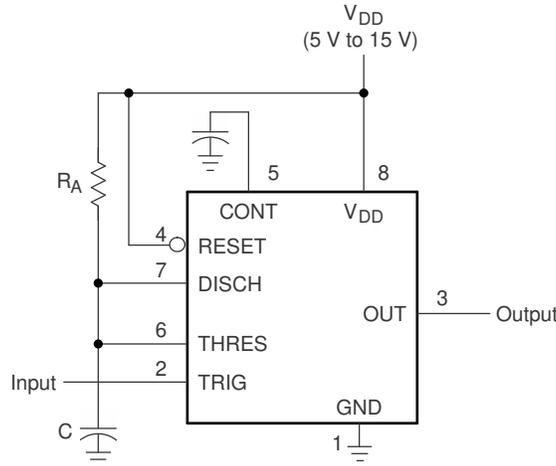
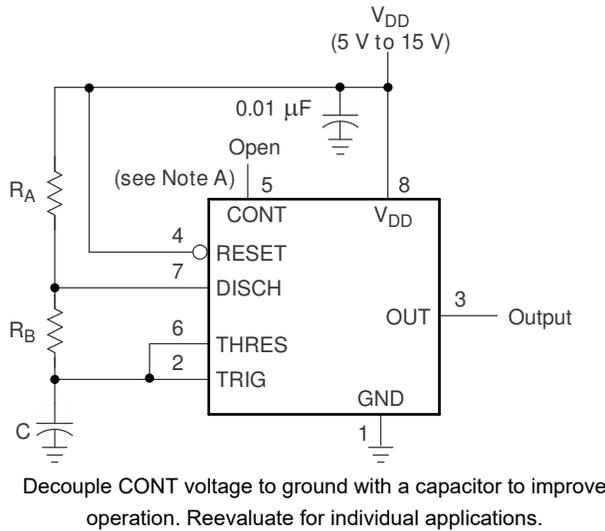
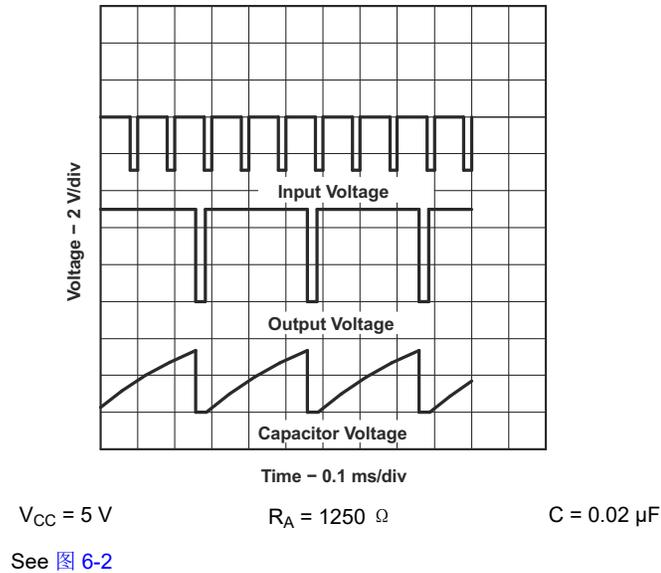

图 6-2. Circuit for Monostable Operation
图 6-5. Circuit for Astable Operation
图 6-9. Divide-by-Three Circuit Waveforms
(1)  $R_A$ ,  $R_B$ , and  $C_T$  are as defined in 图 6-5.
For monostable operation, 图 6-2 shows how any of these timers can be connected. If the output is low, application of a negative-going pulse to the trigger (TRIG) sets the internal latch; the output goes high, and discharge pin (DISCH) becomes open drain. Capacitor C then is charged through  $R_A$  until the voltage across the capacitor reaches the threshold voltage of the threshold (THRES) input. If TRIG has returned to a high level, the output of the threshold comparator resets the internal latch, the output goes low, the discharge pin goes low, which quickly discharges capacitor C.
As shown in 图 6-5, adding a second resistor,  $R_B$ , to the circuit of 图 6-2 and connecting the trigger input to the threshold input causes the timer to self-trigger and run as a multivibrator. The capacitor  $C$  charges through  $R_A$  and  $R_B$  and then discharges through  $R_B$  only. Therefore, the duty cycle is controlled by the values of  $R_A$  and  $R_B$ .
By adjusting the length of the timing cycle, the basic circuit of 图 6-2 can be made to operate as a frequency divider. 图 6-9 shows a divide-by-three circuit that makes use of the fact that retriggering cannot occur during the timing cycle.